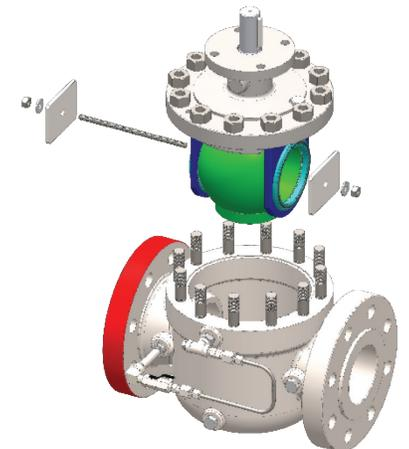

Figure 2: Installation Tool
9. Attached the installation tool to the replacement cartridge as shown in Figure 2. Tighten the nuts onto the threaded shaft until the cartridge assembly is compressed by approximately .060” (1.50 mm).